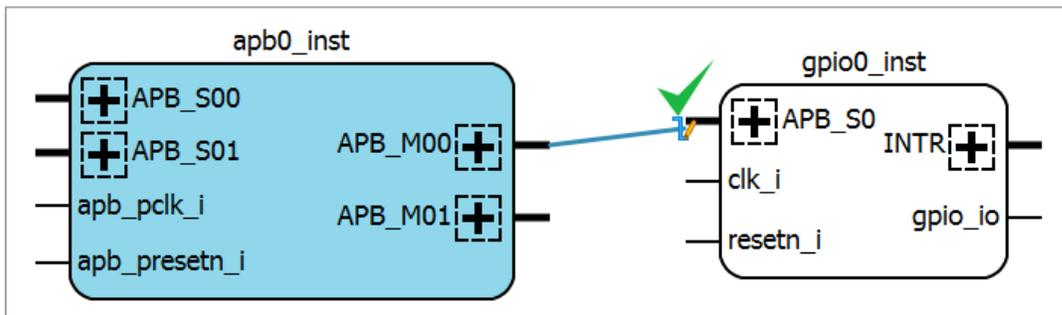
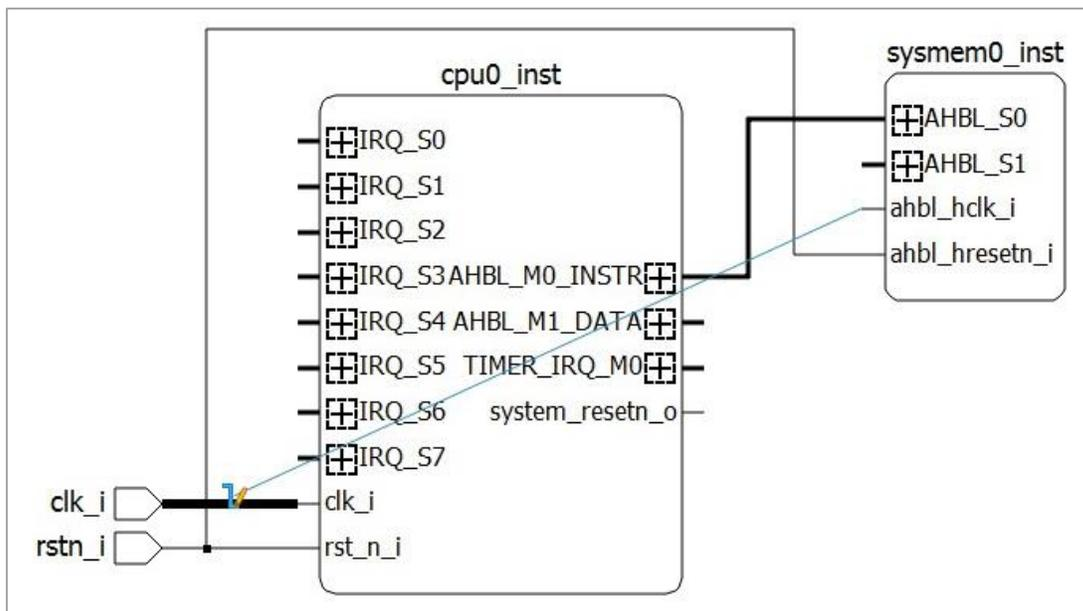

Figure 2.71. Draw a Pin or a Port
Figure 2.72. Draw Nets
1. Move the cursor to a pin or port. The cursor changes to a pencil icon . Click and hold while dragging to another pin, port, or net. An allowed pin or port shows a green checkmark when you hover over it (Figure 2.71). An allowed net becomes bold when you hover over it (Figure 2.72).